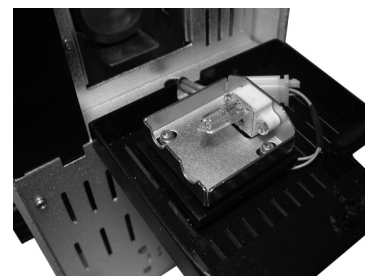

Figure 29
3. Once the door is open, the lamp can easily be removed simply by grasping the lamp and pulling it from the fixture (see figure 29).